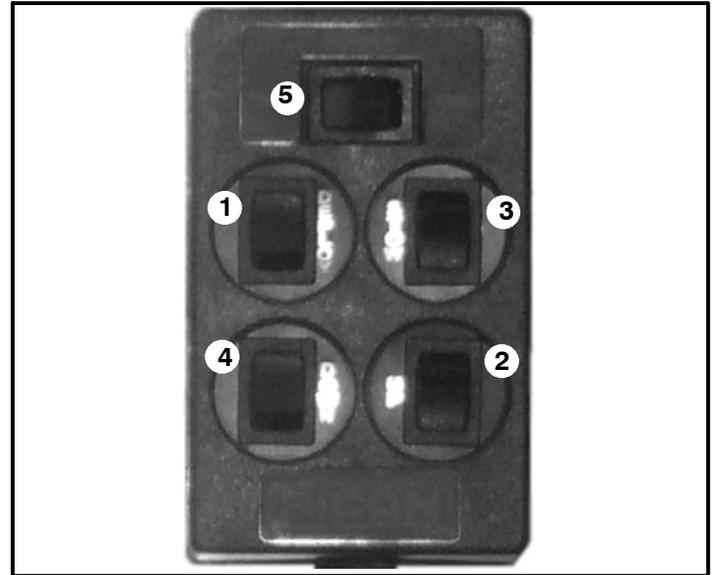

FIGURE 80 - Ricon F9TF Control Pendant Switches
The Control Pendant Switch Unit is located in the lift cassette access door (when the door is opened) (Figure 79). The WCL Control Pendant contains a POWER ENABLE switch and four buttons (Figure 80).
- Press and hold the DEPLOY button, on the Control Pendant switch (Figure 80), until the lift unit extends completely out of the cassette enclosure.
The Pendant Control Switch Unit is located in the lift cassette access door (Figure 79). The Pendant Control contains three buttons (Figure 80).